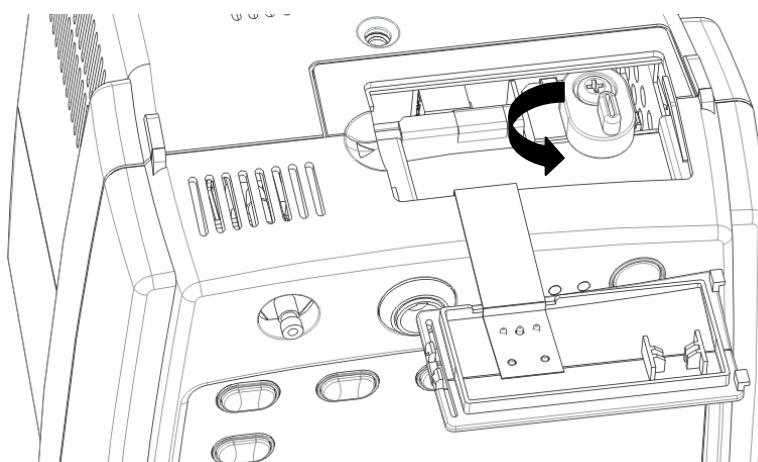

Figure 3-3
4. Push the battery all the way to the bottom and flip the stopper back to the original position, as Figure 3-3 shows.